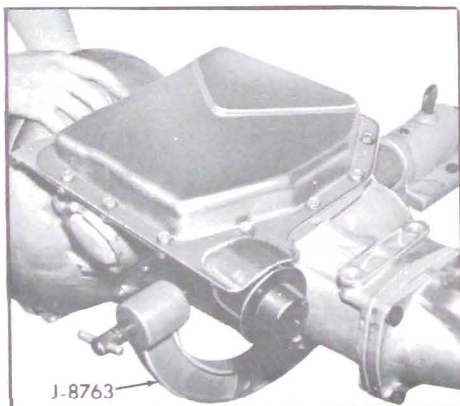

Figure 5-361
3. Install converter. See Figure 5-361.